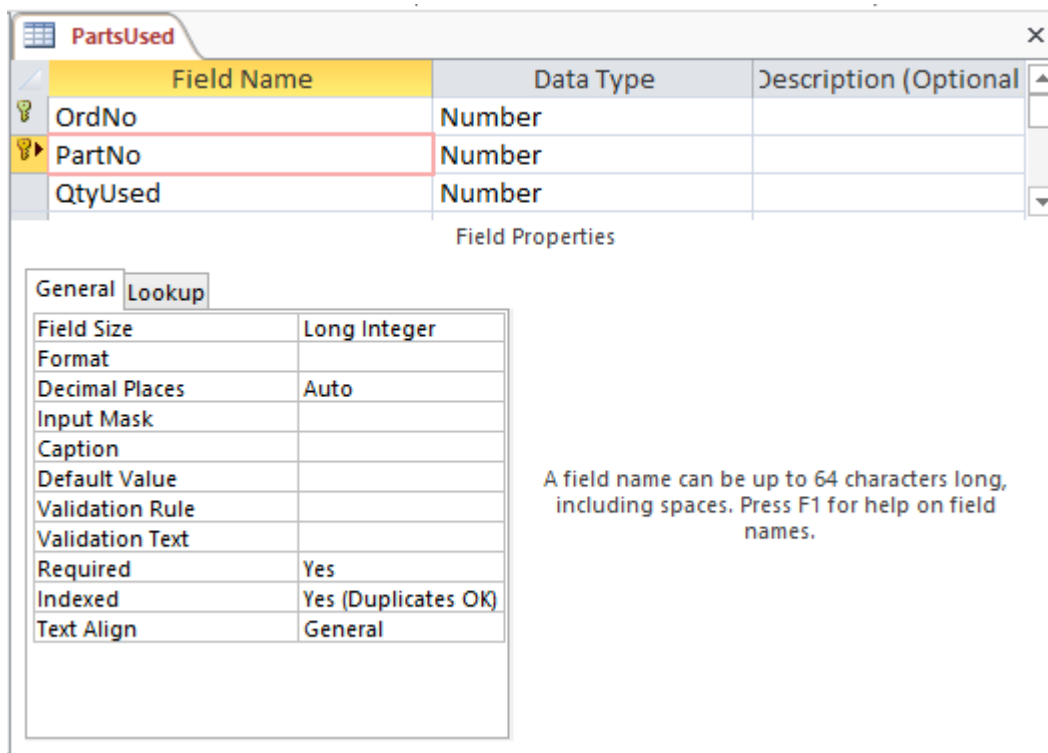

Figure 30: Design View Showing the Completed *PartsUsed* Table
4. Examine the Design View: The final Design View should appear as in Figure 30. After you have inspected your window, save the table and close the view.
4. **Close the Datasheet:** When you are finished entering all records, your datasheet and Figure 30 should appear the same. Close the datasheet by clicking the **Close** button.